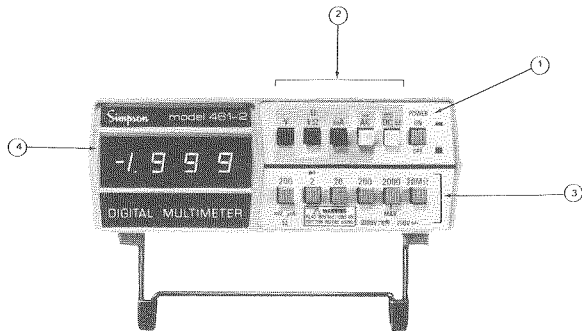

FIGURE 3-1. FRONT PANEL DESCRIPTION
3.2.1 Table 3-1 lists all front and side panel controls, connectors, and indicators (Figures 3-1, 3-2, 3-3 and 3-4 for identification).